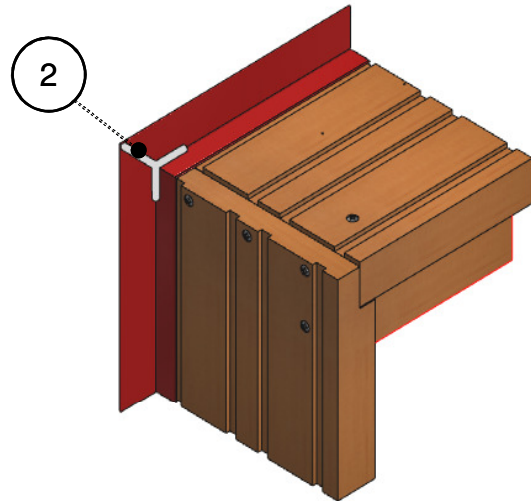

Figure 2
- 4) Add Chem-Calk Bostik 2020 on mitered joints, perimeter and sides. Gasket is then placed at each top corner. (Figure 2 & 3)